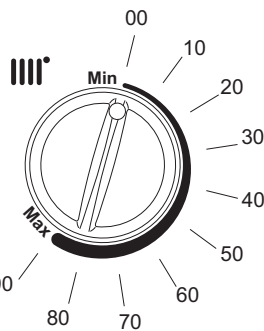

Fig. 38
3. Normally the display will show the current temperature of the water in the boiler. As the knob is turned the display will show the selected curve (Fig. 38 & 39).